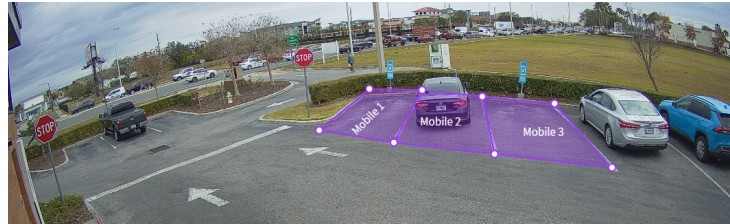

Fig. 5.7
9. Repeat the process for additional mobile spaces (up to four total per camera). Fig. 5.7 shows three mobile spaces configured. For easy identification, it is best practice to assign the space numbers in order (left to right in this example). You can also rename these polygons by clicking inside polygon label.
NOTE: When Pick-Up Zones are adjacent, like the ones shown in Fig. 5.7, the adjacent sides should overlap (i.e., no gaps can exist between the polygons). See first bullet point in Step 13. Gaps can exist if the polygons are not side-by-side (i.e., separated by a parking space, or by at least 3 feet). Pull-Forward and Mobile spaces can also alternate side-by-side. For example, the layout in Fig. 5.7 could be configured with two Mobile spaces and a Pull-Forward space in between (the space currently occupied by Mobile 2).